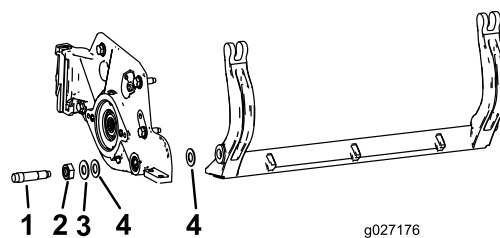

Figure 26
4. Remove each bedbar bolt allowing the bedbar to be pulled downward and removed from the machine bolt (Figure 26).
Note: Account for 2 nylon washers and 1 stamped steel washer on each end of the bedbar (Figure 26).
Note: Position a nylon washer on each side of the side-plate boss. Place a steel washer outside each of the nylon washers (Figure 26).